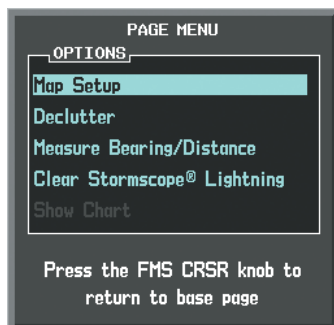

Figure 6-101 Page Menu
- 2) With 'Map Setup' selected (Figure 6-101), press the **ENT** Key.
- 2) With 'Map Setup' selected, press the **ENT** Key (Figure 6-101).